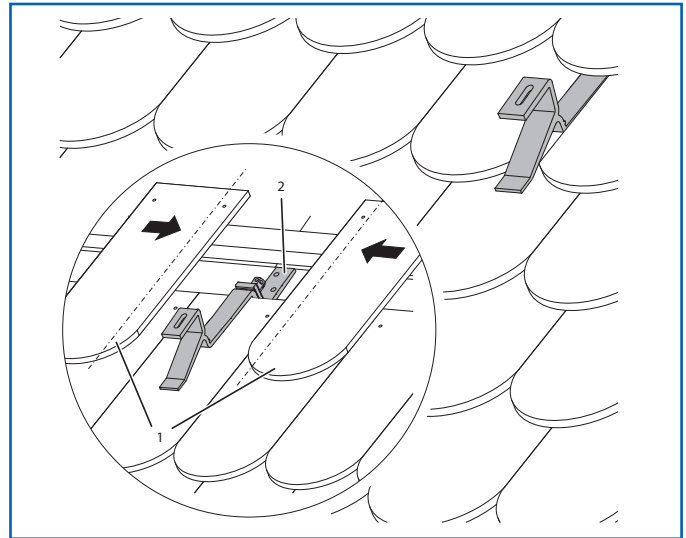

Fig. 128 Roof jack attached on a plain tile roof
Fig. 128 shows attaching the roof jack (item 2) to a plain tile roof. Trim and attach the plain tiles on site.
### Legend (Fig. 128)